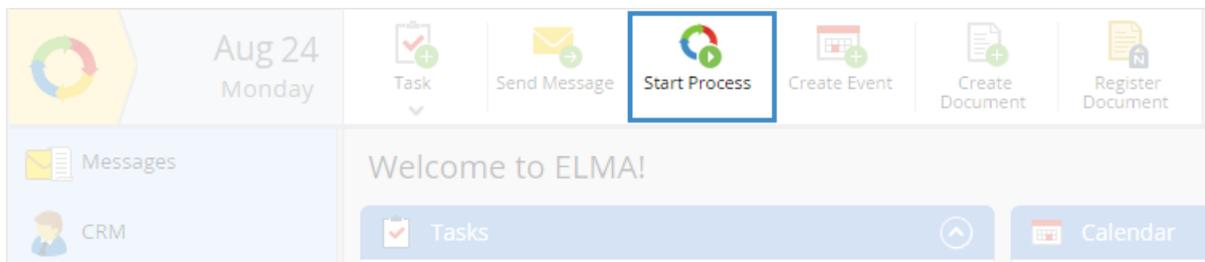

Fig. 91. The Start Process button on the main page of ELMA Web-Application
**The first method.** On the main page, in the toolbar click **Start process** button (Fig. 91). In the window that appears (Fig. 92), click on the process you want to start.